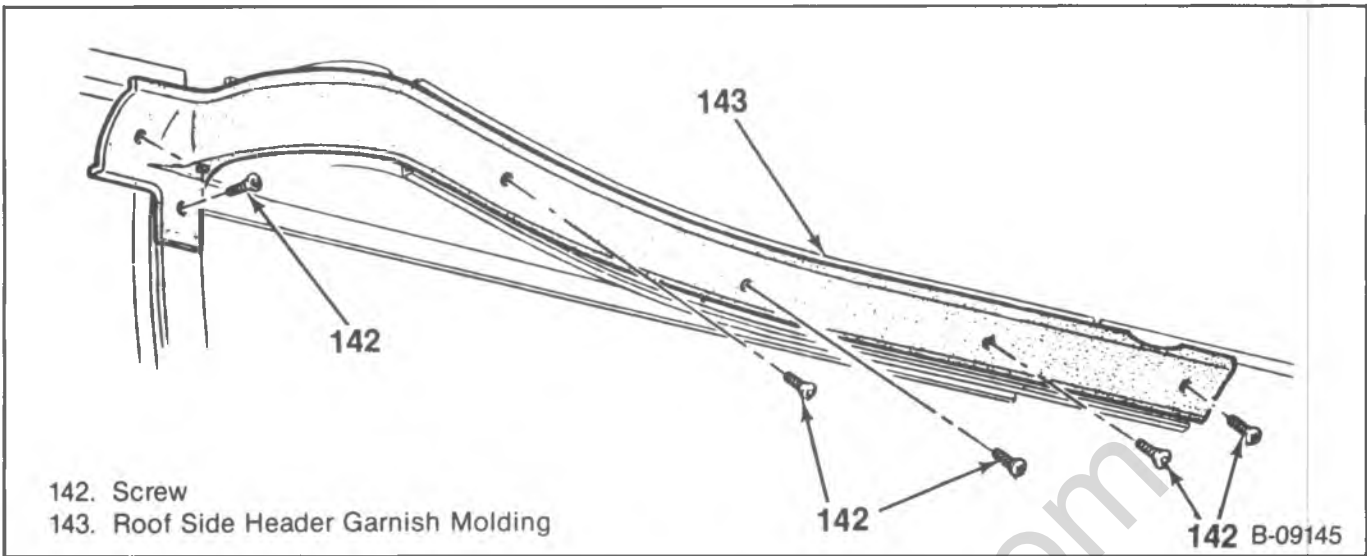

Figure 48—Roof Side Header Garnish Molding
6. Roof side header garnish molding (figure 48). For vehicles with the sliding side door only.
9. Roof side header garnish molding and screws (figure 48). For vehicles with the sliding side door only.